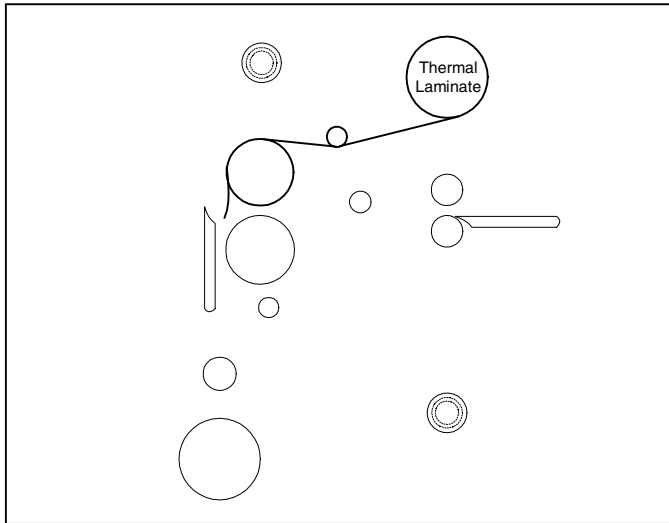

Fig. 22
1. Turn the **Power ON/OFF** to on (I).
5. Pull the top roll of film down under the upper idler bar and allow to drape over the top heat roller (Figure 22).